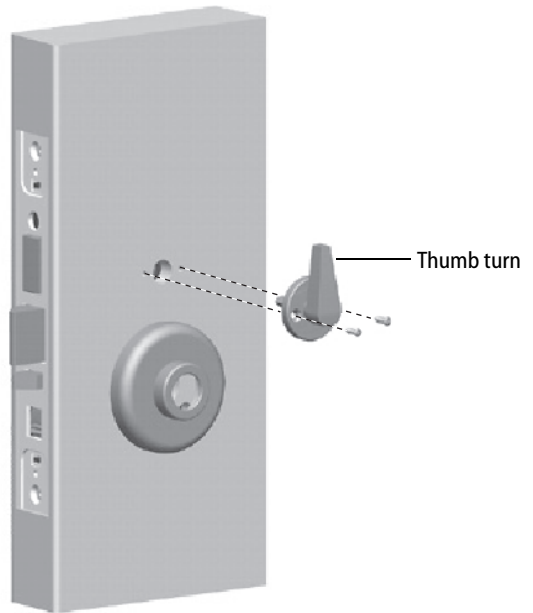

Figure 16 Installing the thumb turn or emergency access plate
- 2 Install the thumb turn or emergency access plate using the two screws provided (Figure 16).